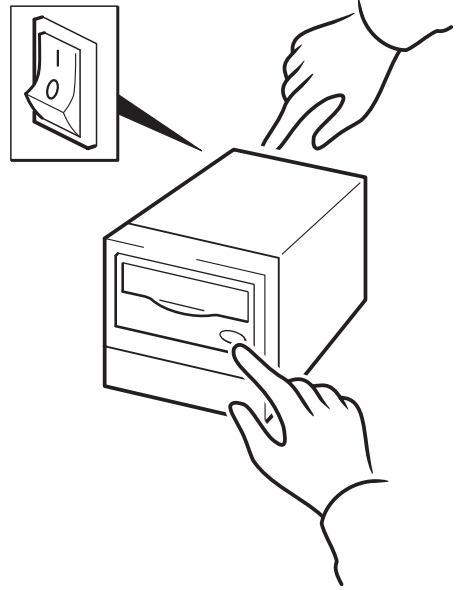

Figure 10b: using HP OBDR, step 2
- 2 Hold down the eject button. Keeping the eject button pressed down, power on your tape drive (see figure 10b). This activates the HP One-Button Disaster Recovery process. Release the button as soon as the Tape light and Clean light flash alternately.